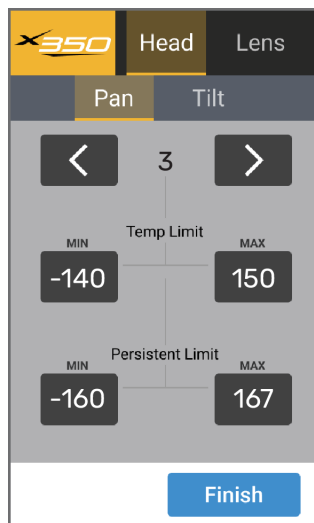

Figure 50 - Controls for the Pan Axis
1. Operate the axis for which you want to set a limit, moving it to the position you want to record as the limit. **Figure 50** shows controls for the **Pan** axis.